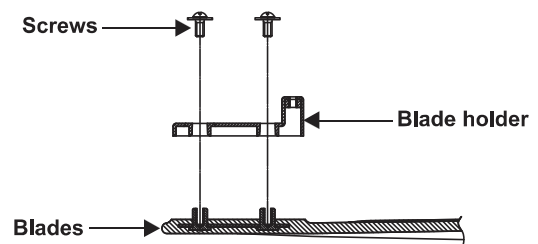

Figure 6
2. Attach the blade holder to the blades using the screws provided. Repeat process with other blades. (Fig. 6)